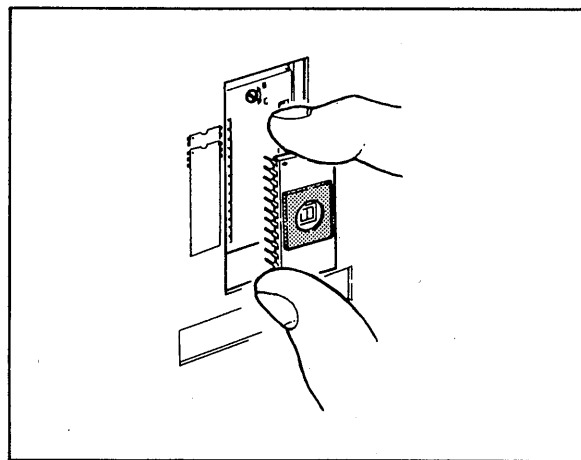

Figure 6-3-8. Removing ROM.
- d. Grasp the ROM manually and pull it out of the socket, being careful not to damage the pins. (See Figure 6-3-8.)
(2) Installing User ROM